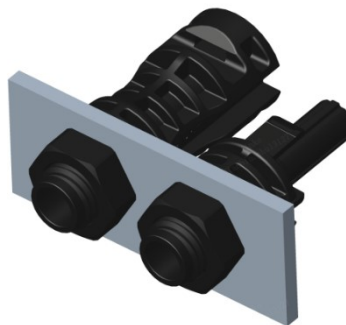

Figure 17
- ✧ 安装公/母面板连接器时，推荐用 2.0 N.m 的扭矩锁紧螺母。具体情况，需要由终端用户根据不同的面板验证合适的扭矩 (如图 17)。
When installing the male or female panel connector, it is recommended to use 2.0 Nm torque lock nut. The appropriate torque has to be verified in the end use according to the respective housing (Fig.17).